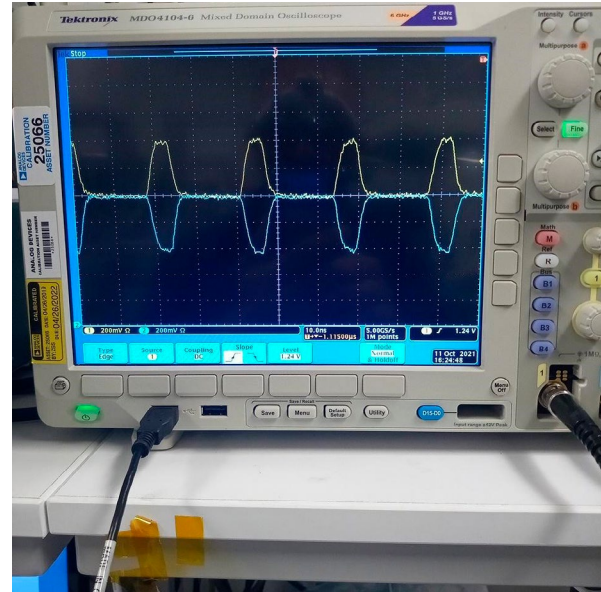

Figure 8. OUT and OUTBAR Typical Waveforms
11. With a 5ns duration laser pulse width from this light source, the Figure 8 typical scope waveforms can be